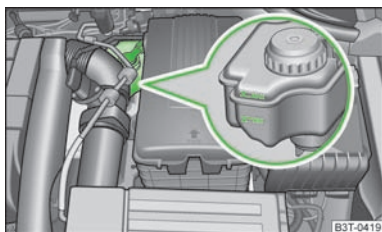

Fig. 146
- Check the level of brake fluid in the reservoir » Fig. 146. The level must be between the "MIN" and "MAX" markings.